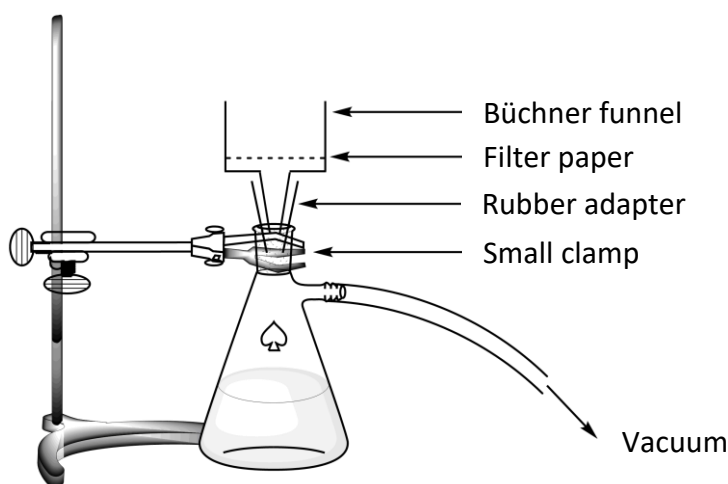

Figure 2. Setup for the vacuum filtration
7. **Set up** a vacuum filtration apparatus (*see Figure 2*) using a Büchner funnel, a filter paper, and a suction flask, that is secured to the laboratory stand with a small clamp. **Raise** your HELP card. A lab assistant will come and show how to connect the suction flask to the vacuum source.